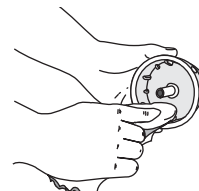

Fig. 26
- Use a clean cloth to clean the inner reel, spring, shaft and inner surface of the outer spool (Fig. 26).